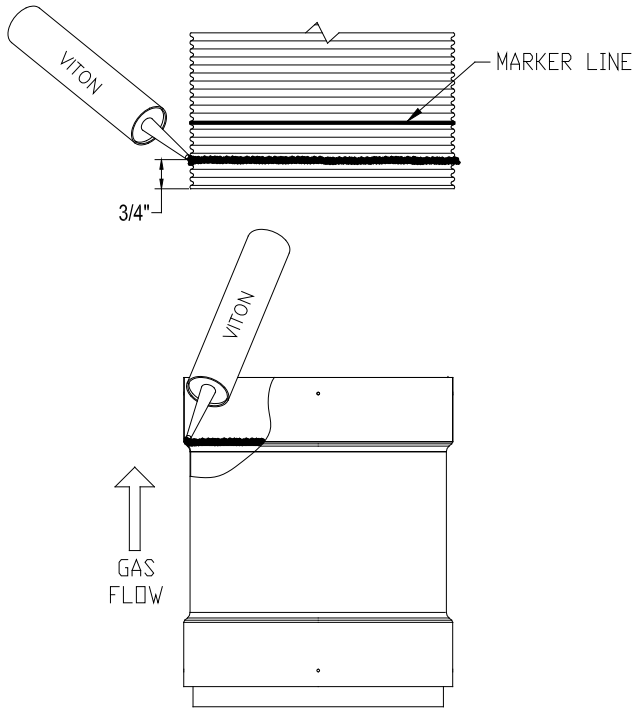

Figure 18 -DuraSeal Flex Viton® caulking
- 2.1. Add a bead of Viton® caulking (resistance to condensate) all around inside the adapter on the beginning of the flare. Add another bead of Viton® caulking all around the outside of the flexible liner at 3/4" from the edge (Figure 18).